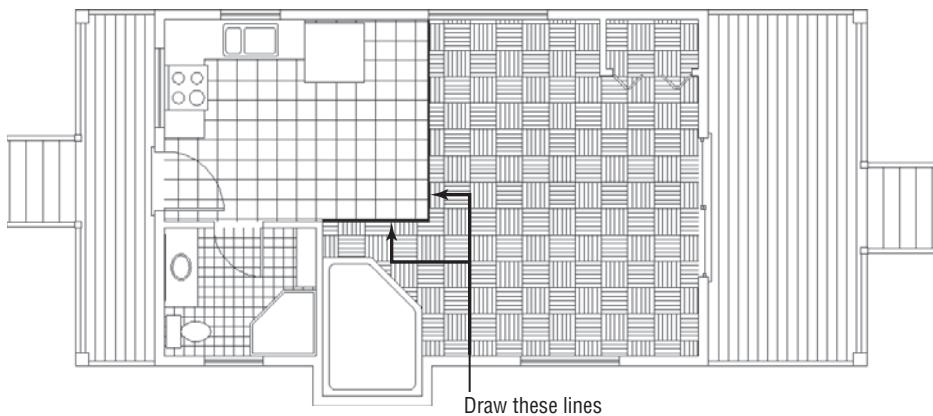

FIGURE 11.24 The hatch pattern on the rear deck and the line between the living room and kitchen
16. The transition between the kitchen and the living room floor coverings isn't as clean and evident as it could be. Draw a polyline with a width of 0 from the corner of the bathroom, perpendicular to the living room window opening and then directly to that window, as shown in bold in Figure 11.24.